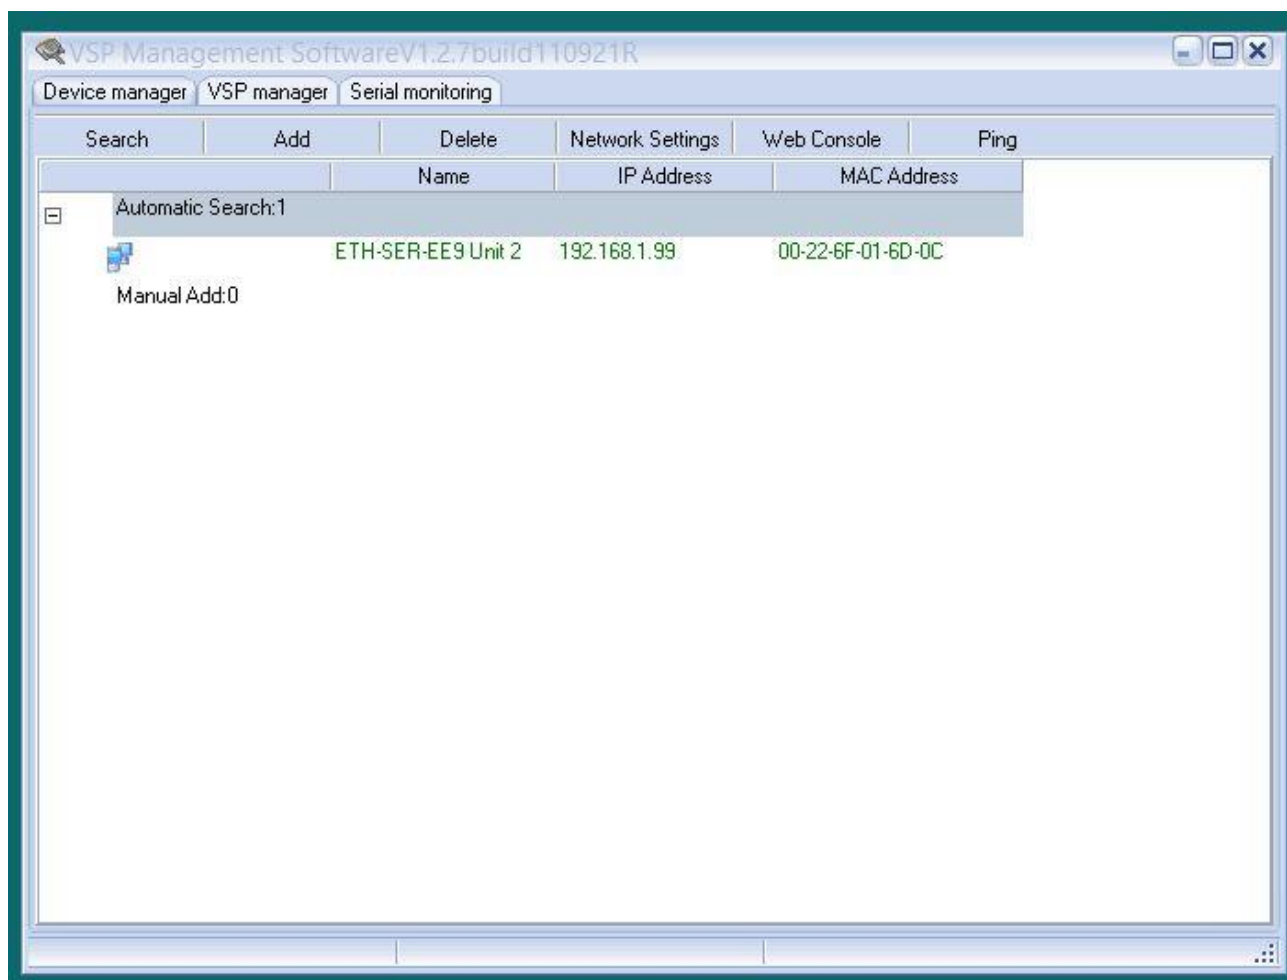

FIGURE 4.24 – SEARCH ETH-SER-EE9 DEVICE
- 4) Search for the attached ETH-SER-EE9 device. Our name is ETH-SER-EE9 Unit 2, IP 192.168.1.99 MAC 00-22-6F-01-6D-0C. (SEE FIGURE 4.24).